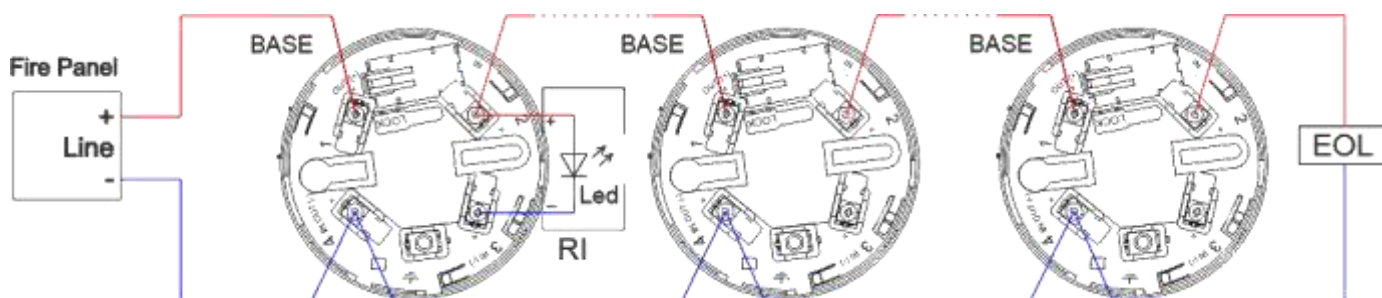

Fig.1
- Connect the electrical cables according to the attached diagram (Figure 1);